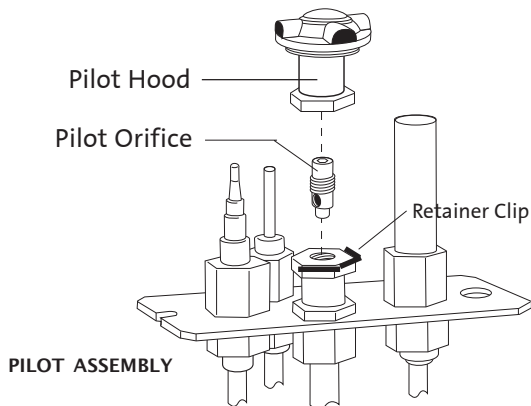

Figure 30. Pilot Orifice replacement.
- FROM WITHIN THE FIREBOX, disengage the Pilot Hood by releasing the retainer clip as shown in Fig. 30. Using a 4 mm allen wrench, unscrew the pilot orifice (counter clockwise). Replace with the appropriate orifice: